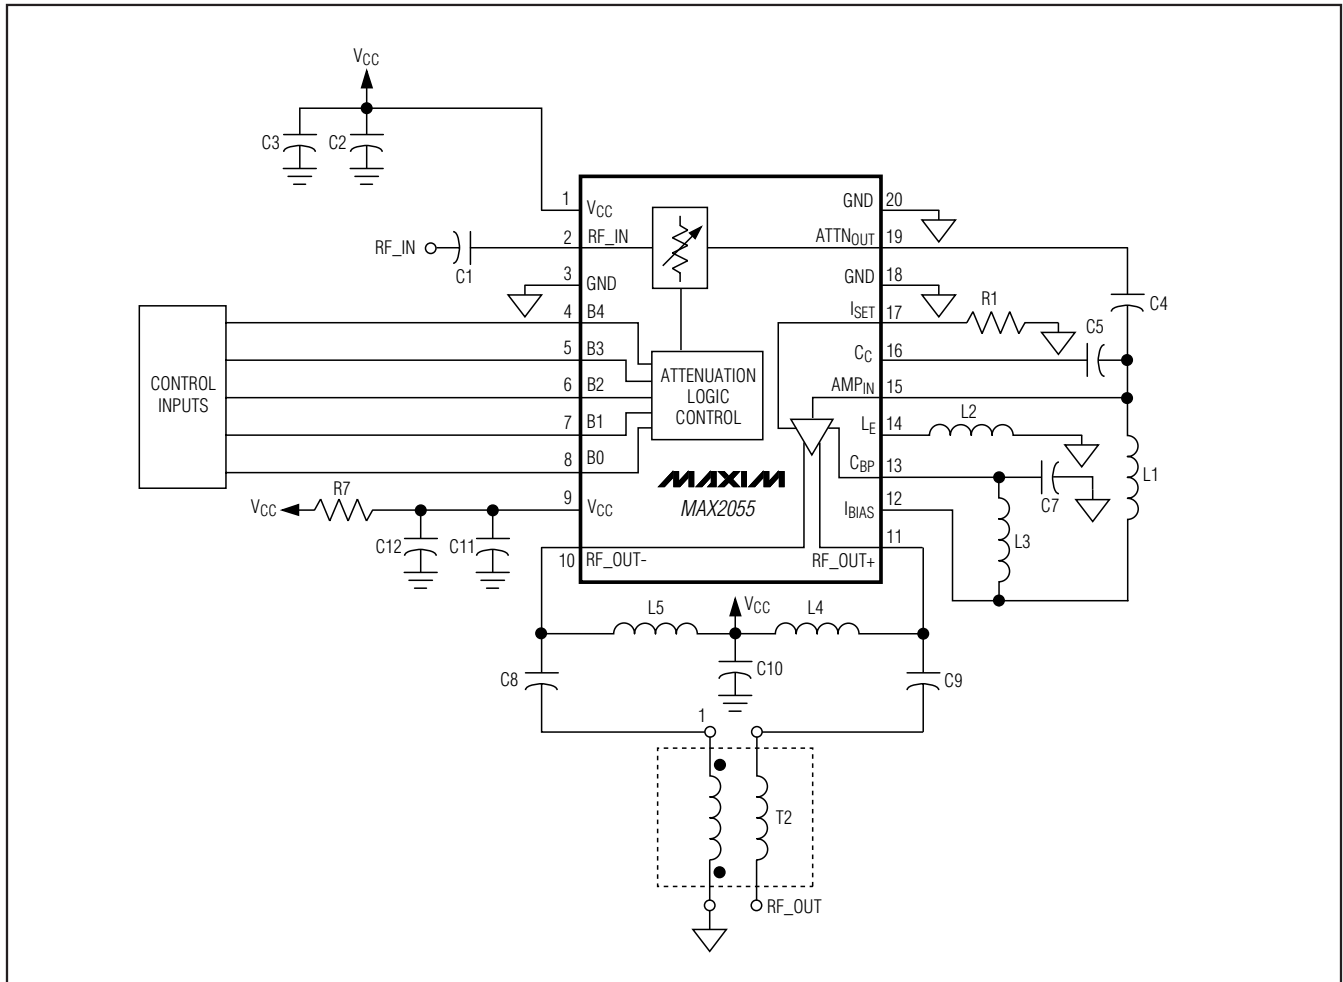

Figure 2. Low-Cost Application Circuit
(Circuit of Figure 2,  $V_{CC} = 5.0V$ ,  $R_1 = 909\Omega$ , max gain, ( $B_0 = B_1 = B_2 = B_3 = B_4 = 0$ ),  $P_{OUT} = 5dBm$ ,  $T_A = +25^\circ C$ , unless otherwise noted.)
**Table 2. Suggested Components of Circuit of Figure 2**
feedback topology. This amplifier is optimized for a frequency range of operation from 30MHz to 300MHz with a high-output third-order intercept point (OIP3). The bias current is chosen to optimize the IP3 of the amplifier. When R1 is 1.13k $\Omega$  (909 $\Omega$  if using the circuit of Figure 2), the current consumption is 240mA while exhibiting a 40dBm typical output IP3 at 70MHz. The common-mode inductor, L2, provides a high common-mode rejection with excellent amplitude and phase balance at the output. L2 must handle the supply current and have DC resistance less than 0.2 $\Omega$ .